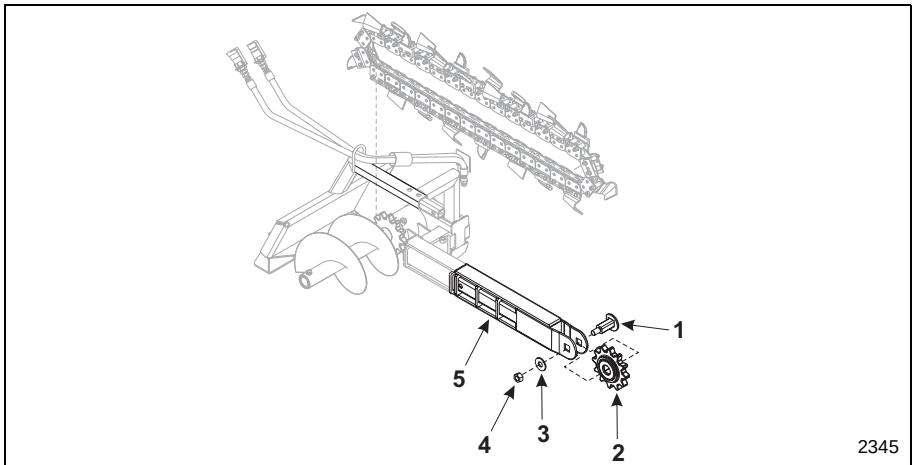

Figure 21 Nose Drive Sprocket Replacement
4. Remove the nut (Item 4, **Figure 21**) and washer (Item 3, **Figure 21**) that secures the nose drive sprocket bolt (Item 1, **Figure 21**) to the boom (Item 5, **Figure 21**).
5. While holding the nose drive sprocket (Item 2, **Figure 21**), remove the bolt.